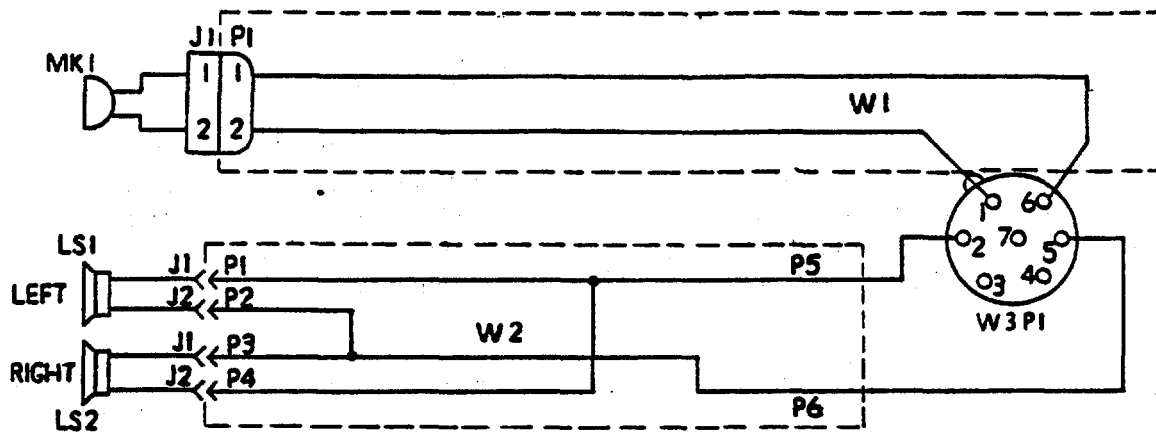

Figure 4-24. Helmet Assembly Schematic.
a. Test (figure 4-24)
- (1) Perform an end-to-end continuity test on helmet communications assembly.
- (2) Replace or repair the helmet communications assembly as required.